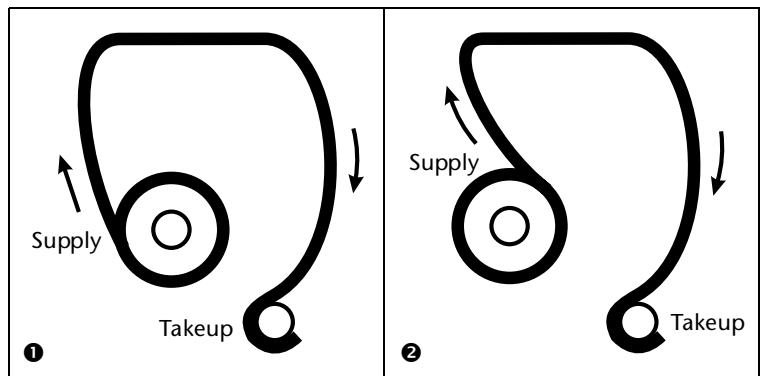

Fig. 3-4. Media path options
You can load the supply spool so that the media either unspools from the bottom or the top of the roll (see Fig. 3-4 below). This enables you to print on either side of the media.
15. Grasp the middle of the media web, pull straight back, route the media underneath the takeup core, and tape it to the takeup core as shown in Fig. 3-4 on page 3-13.